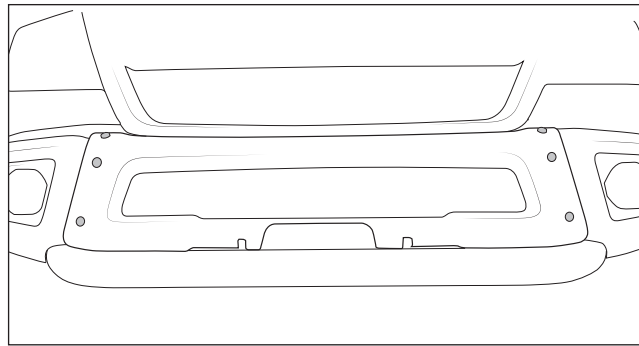

Figure 3
2. Remove the 6 M10 torx bolts attaching the center section of bumper (fig. 3).